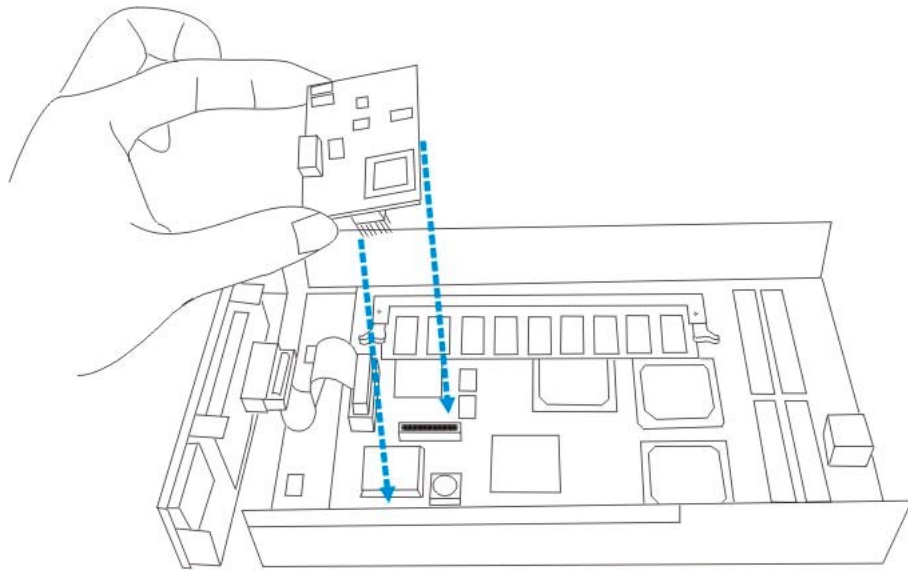

Figure 2-4: Install the Battery Charger Board
- Step 3.** *Install the battery charger board.* The battery charger board comes with two board-to-board connectors. Align the appropriate connectors with jumper 7 (JP7) and jumper 2 (JP2) on the controller board. Once these connectors are aligned with the jumpers, gently insert them into the jumpers. (See *Figure 2-4*)